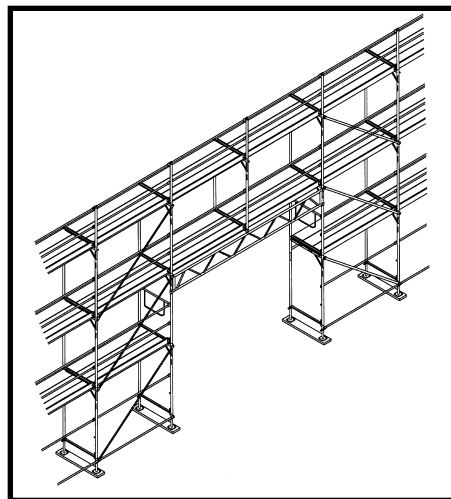

Figure 17
**2.6.2.4 Completing the platform:** Install the platform planking on the frames above and any required vertical diagonal bracing in both adjacent bays. Install a Girt Spreader (SLGTSP) at the Girt mid-span by clamping it to each Girt center coupling pin post. Temporarily use short cleated scaffold grade plank to install the spreader on the girt coupling pins. Install plank on the star-pins (see Fig. 17). Remove Screw Jacks, Base Supports and rails from below the installed Girts to provide the desired passage opening.